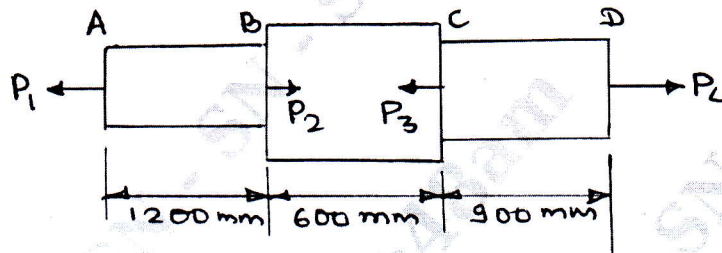

Fig.Q1(c)
- c. A member ABCD is subjected to point loads  $P_1$ ,  $P_2$ ,  $P_3$  and  $P_4$  as shown in Fig.Q1(c). Calculate the force  $P_2$  necessary for equilibrium if  $P_1 = 45\text{kN}$ ,  $P_3 = 450\text{kN}$  and  $P_4 = 130\text{kN}$ . Determine stresses in each member and also determine the total elongation of the member assuming the  $E = 2.1 \times 10^5 \text{N/mm}^2$ .